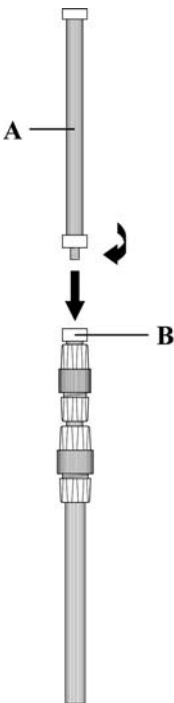

FIGURE 1
1. Screw Pole Extension (FIGURE 1-A) onto top section of Telescopic Pole (FIGURE 1-B). Rotate in a clockwise direction until tight and secure.